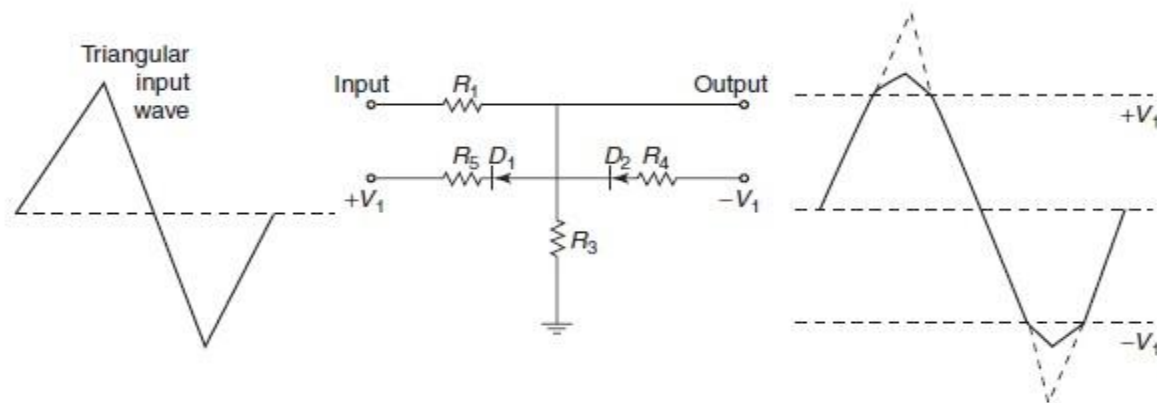

Figure 14-19 Two-level diode loading circuit
- This triangular wave is then converted to a sine wave using the diode loading circuit, as shown in Fig. 14-19. Resistors R_1 and R_2 behave as the voltage divider. When V_{R2} exceeds V_1 , the diode D_1 becomes forward-biased.